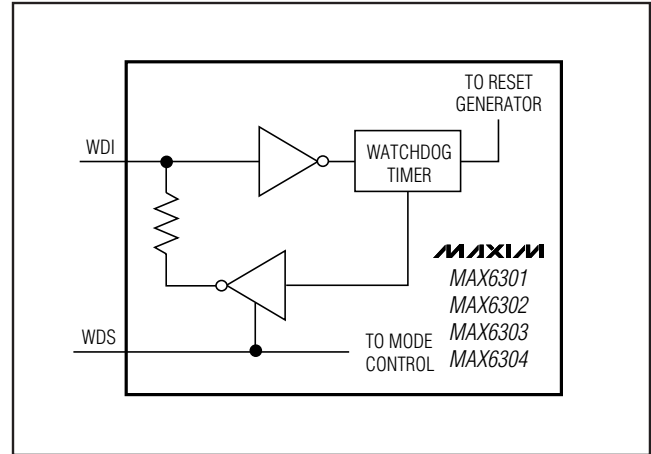

Figure 8. Watchdog Input Structure
**Note 4:** The sink/source is supplied through a resistor, and is proportional to  $V_{CC}$  (Figure 8). At  $V_{CC} = 2V$ , it is typically  $\pm 24\mu A$ .
In extended mode ( $\text{WDS} = V_{CC}$ ), the WDI input is internally driven through a buffer and series resistor from the watchdog counter (Figure 8). When WDI is left unconnected, the watchdog timer is serviced within the watchdog timeout period by a very brief low-high-low pulse from the counter chain. For minimum watchdog input current (minimum overall power consumption), leave WDI low for the majority of the watchdog timeout period, pulsing it low-high-low (> 30ns) once within the period to reset the watchdog timer. If instead WDI is externally driven high for the majority of the timeout period, typically 70 $\mu$ A can flow into WDI.